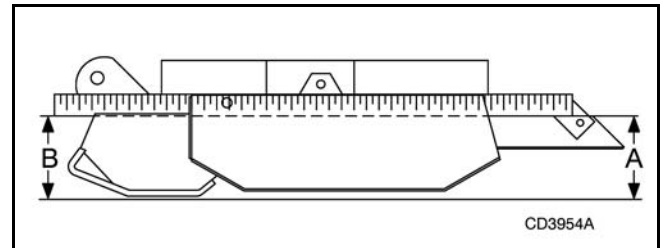

Figure 2. Cutting Height Adjustment on RM990-3 Mounted Mower
Adjust cutting height with tractor 3-point arms and rear caster wheel adjustment. The cutting height will be the distance between the blade and the ground. The blades are approximately 5" below the top of the mower frame. To check cutting height, place a straight edge along top edge of mower frame as shown in Figure 2. Measure from bottom of straightedge to the ground at locations (A) and (B). Subtract 5" from measurement (B) to determine cutting height.